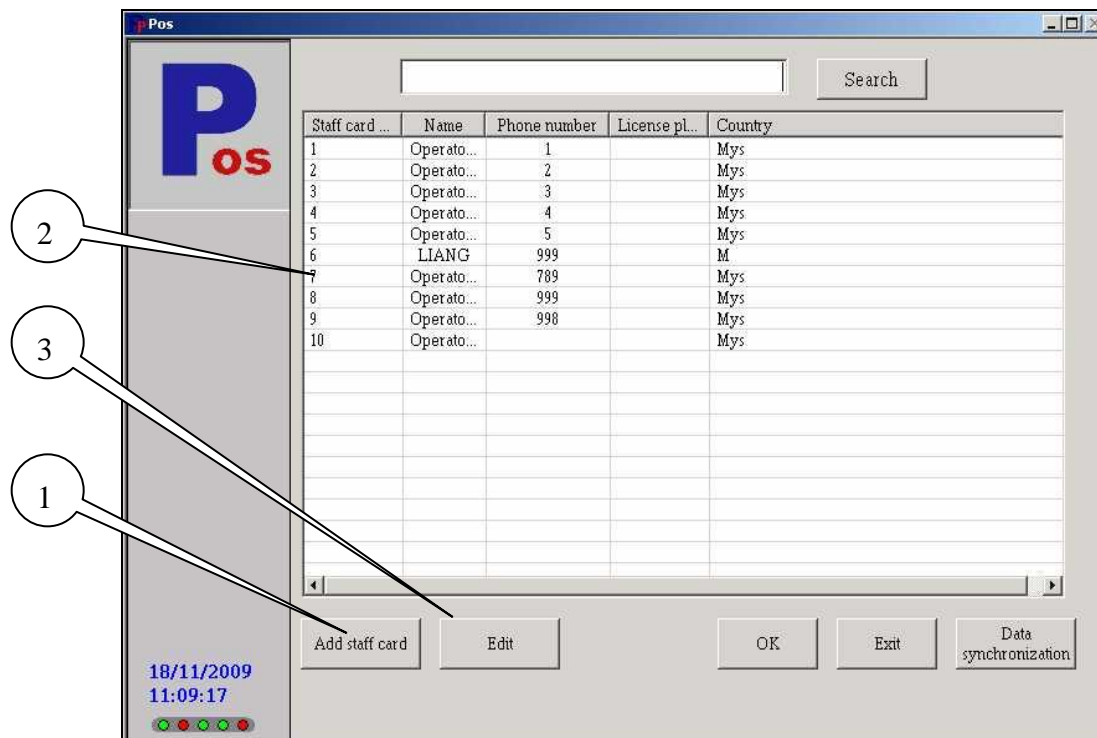

Fig. 8-2
Push **[Operator Data]** button in operator card management page to enter operator data management page (Fig. 8-2)
1. Add a new operator data entry: Push **[Add Operator]** button in operator data management page (Fig. 8-2) for a new operator data entry window (Fig. 8-3) to pop up for data input.